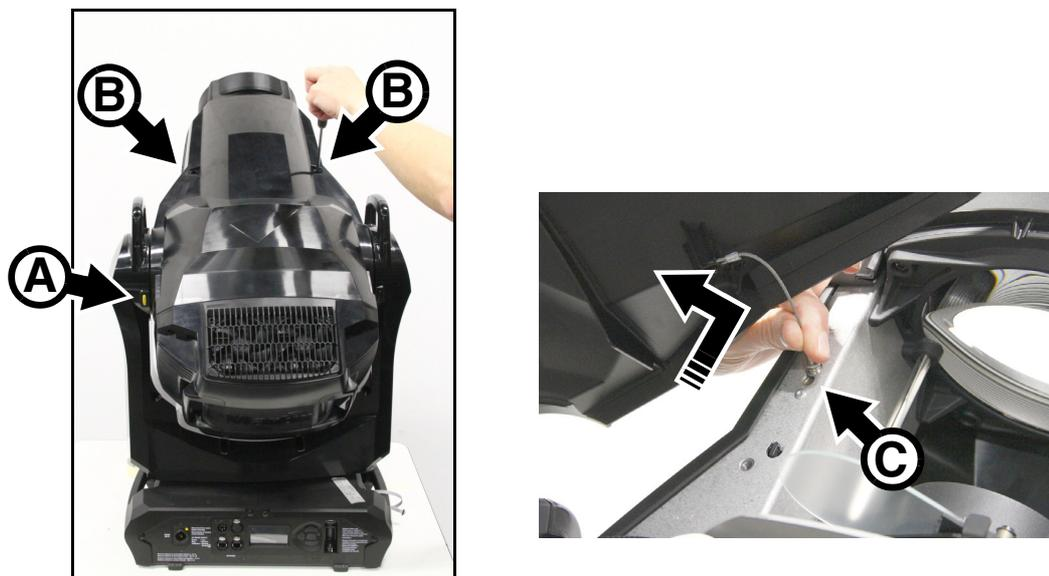

Figure 12: Removing the head covers
3. See Figure 12. Position the fixture so that the Martin logo on the back of the head is the right way up. The top and bottom head covers are now on the top and bottom of the head respectively. Apply the tilt lock **A**.